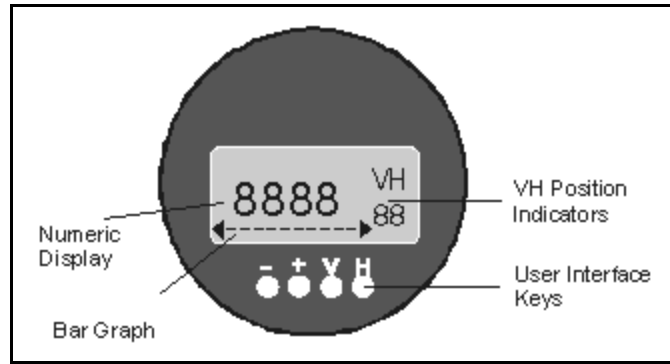

Figure 15: The MMR30 Optional Display
The display of the DewPro MMR30 continuously shows the current matrix location using the vertical (V) and horizontal (H) coordinates to designate the row and column, respectively. The bar graph represents the output current in an analog fashion (refer to Figure 15 above). See Appendix A for an enlarged overview of the matrix.